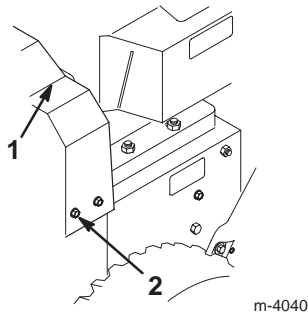

Figure 23
3. Remove the 3 bolts that hold the belt cover in place and set the cover aside (Fig. 23).